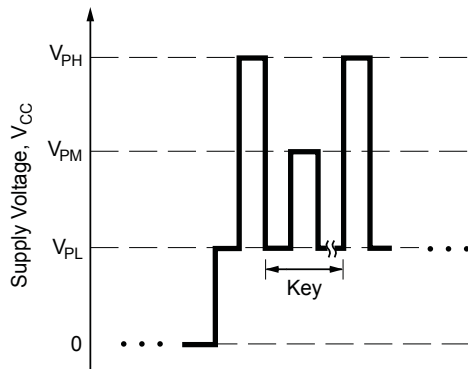

Figure 5. Register selection pulse sequence
Register Selection Each programmable parameter can be accessed through a specific register. To select a register, a sequence of voltage pulses consisting of a V_{PH} pulse, a series of V_{PM} pulses, and a V_{PH} pulse (with no V_{CC} supply interruptions) must be applied serially to the VCC pin. The quantity of V_{PM} pulses is called the *key*, and uniquely identifies each register. The pulses for selection of register key 1, is shown in figure 5. No V_{PM} pulse is sent for key 0. The register selections are shown in table 2.
When setting the B_{OP} Trim parameter, as an aid to programming, values can be traversed from low to high, or from high to low. To accommodate this direction selection, the value of the bit field (and code) defaults to the value 1, on the falling edge of the final register selection V_{PH} pulse (see figure 5). A complete example is provided in figure 11.